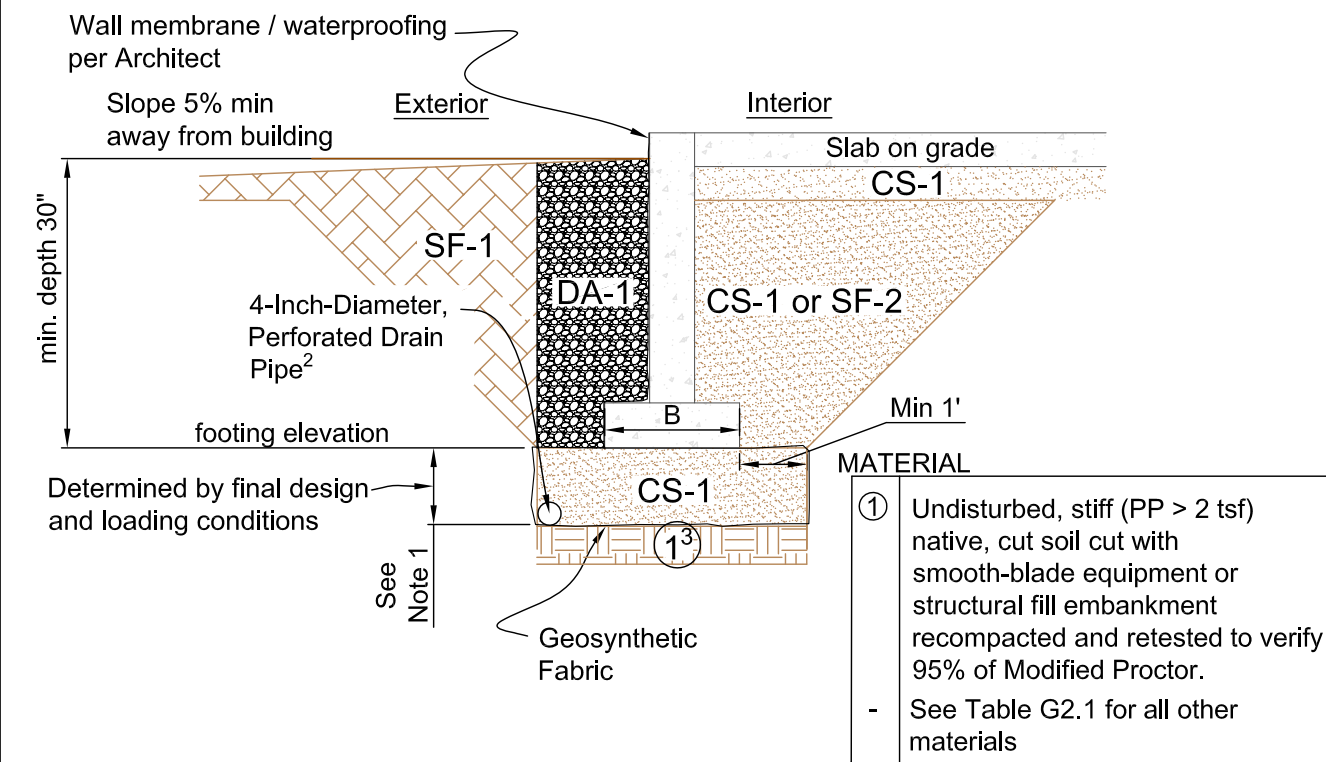

Figure G3.1: Soil Improvement Schematic - Continuous Perimeter Foundations
- Schematics illustrating the soil improvement process are provided in Figures G3.1 and G3.2, *Granular Soil Improvement*. Foundation stem wall height may vary. Figures G3.1 and G3.2 are not structural details.